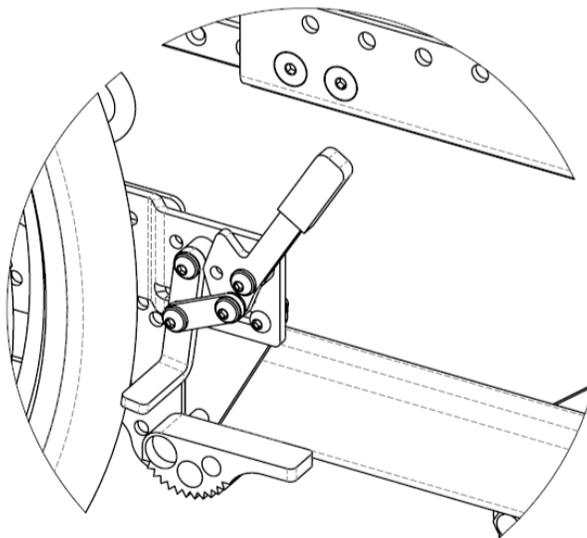

Figure 15.42: *Wheel Locks with Anti-Rollback Device*
6. To engage the anti-rollback device (Figure 15.42), push the anti-rollback cam into the down position.